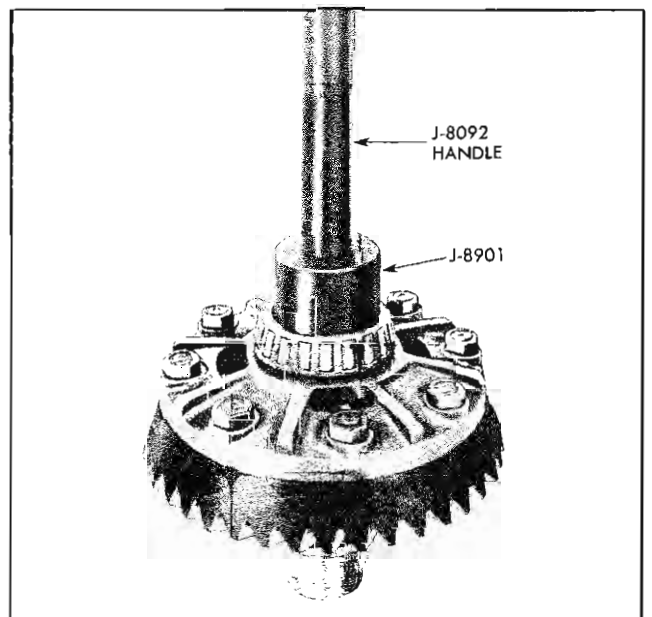

Fig. 4-35 Installing Differential Side Bearing
8. Press on side bearings using J-8901 and J-8092 handle (Fig. 4-35).
9. Press on side bearings, if removed, using J-8901 and J-8092 handle (Fig. 4-35).